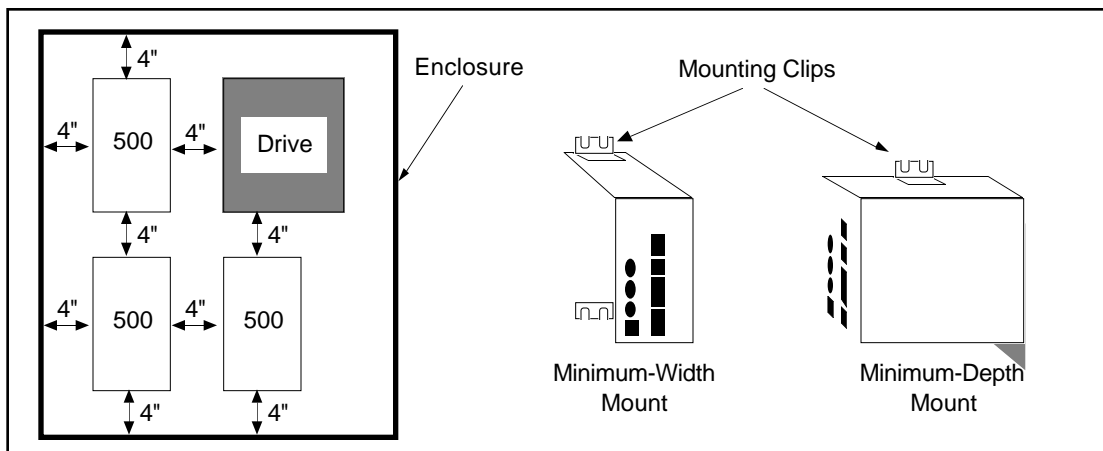

Figure 3-2. Panel Layout Guidelines and Mounting Options
- ❑ Make sure there is at least 4 inches of unrestricted air-flow space around the Model 500 to allow for efficient convection cooling (refer to Figure 3-2). Fan cooling may be necessary if adequate air flow is not provided.
You can mount the Model 500 for minimum depth or width, depending on how you attach the mounting clips to the unit (see Figure 3-2 above).